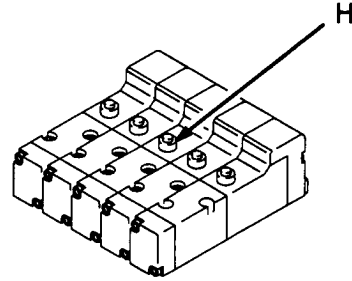

Fig 9
2. Press the manual override button (H) on the solvent solenoid valve, which is inside the PrecisionMix® SC solenoid enclosure. Refer to Fig 9.